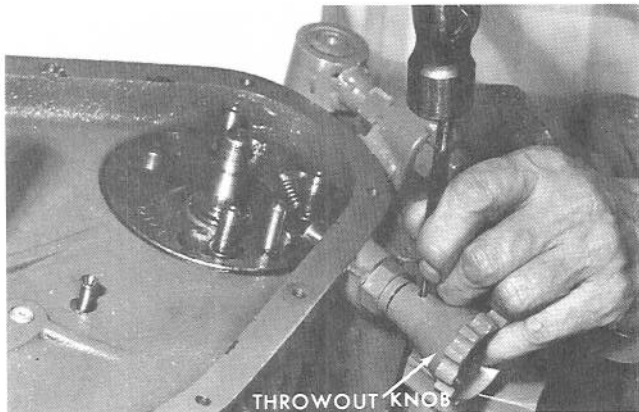

Figure 30
13. For removal of the throwout handle (Fig. 30), "O" ring and finger, drive pin from throwout handle. Remove throwout sleeve by turning counterclockwise.